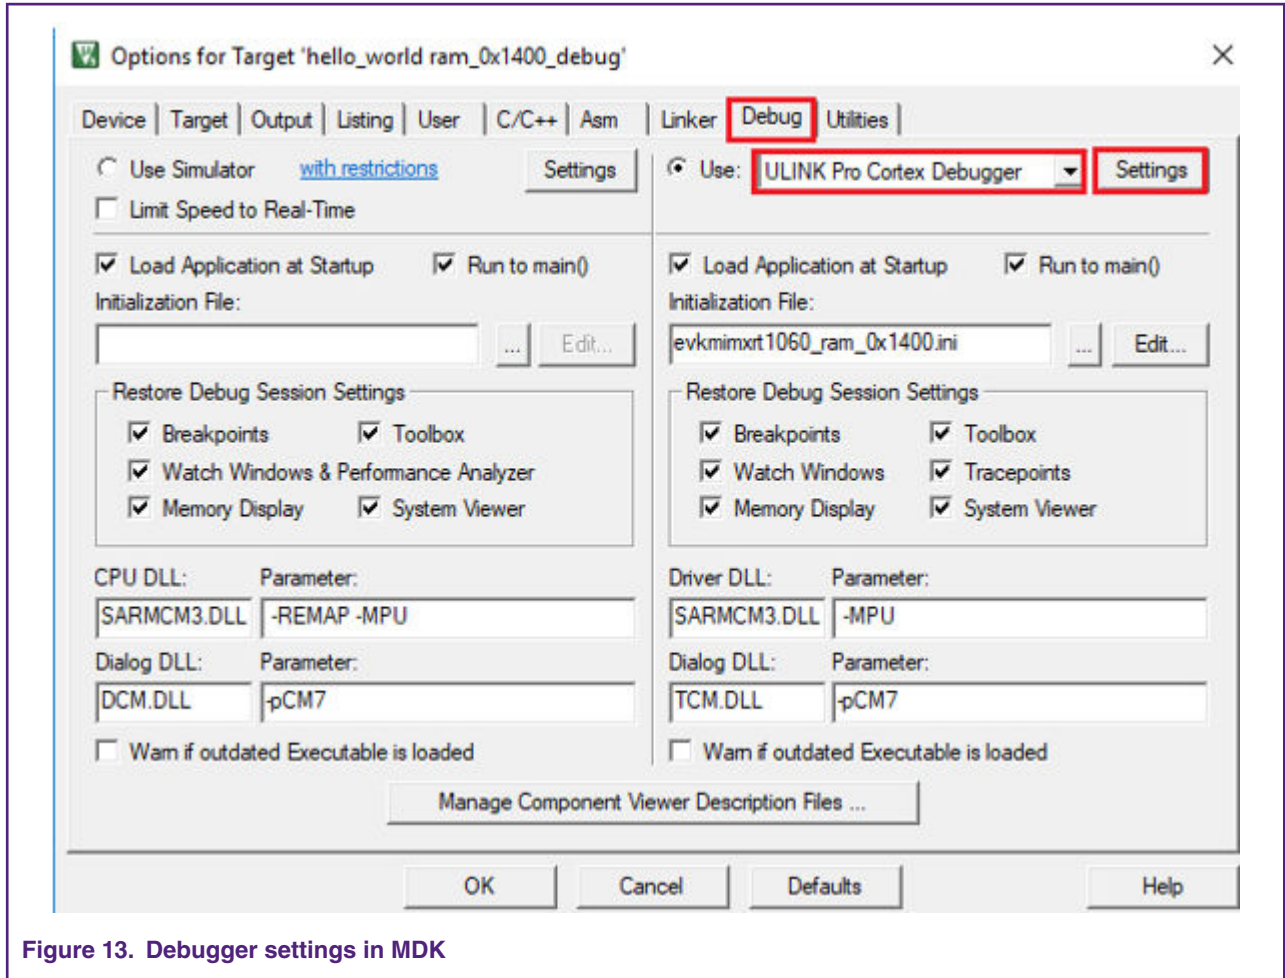

Figure 13. Debugger settings in MDK
1. Connect the ULINK Pro to the target board, the reworked MIMXRT1060-EVK. Select the correct debugger and click **setting**, as shown in Figure 13. on page 14.